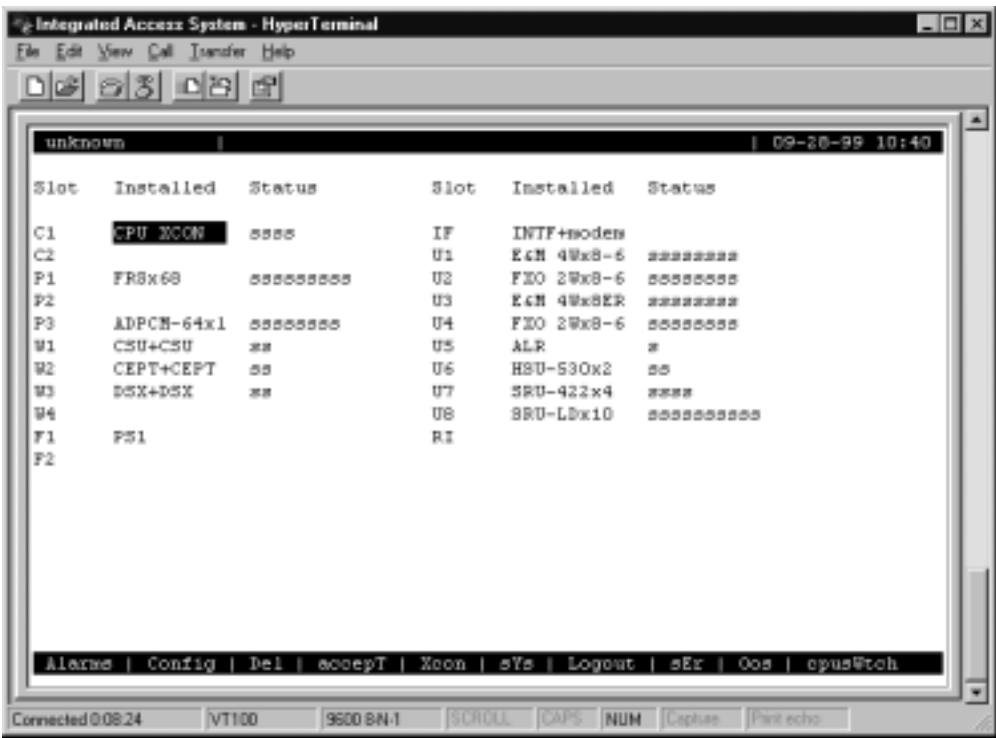
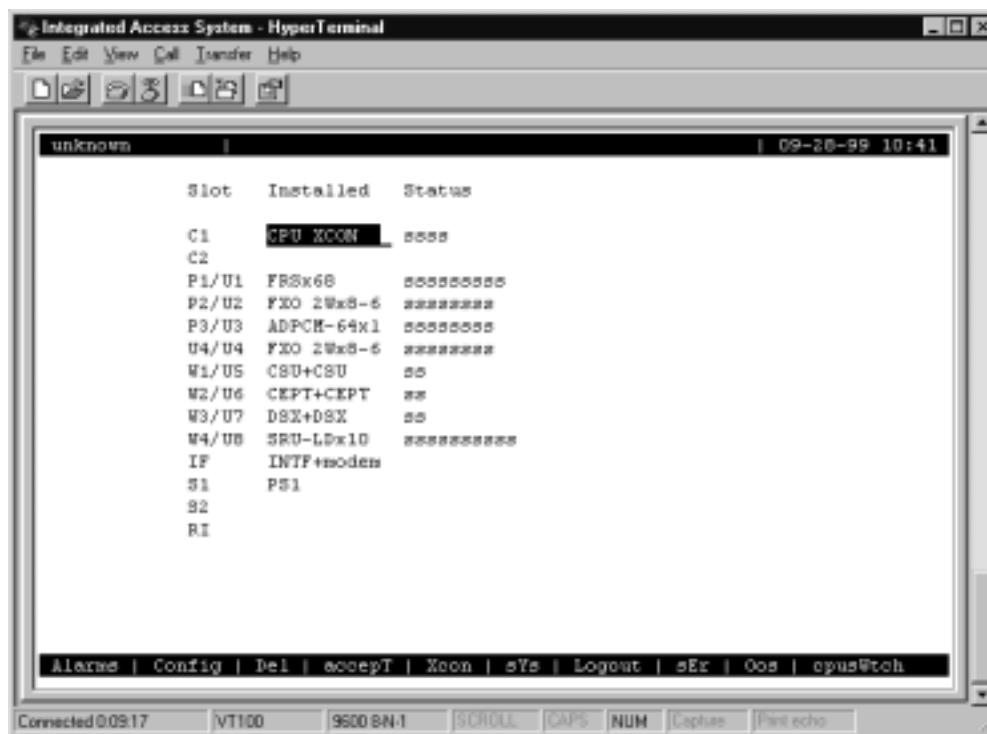

Figure 4-7. Typical System Main Screen (Two-Sided Chassis and Front-Loading Chassis with Power Supplies on Top)
Figure 4-8. Typical System Main Screen (Front-Loading Chassis with Power Supplies on the Side)
4. A System Main Screen appears. Figure 4-7 shows this screen for a two-sided chassis and a front-loading chassis with power supplies on top. Figure 4-8 shows a similar screen for a front-loading chassis with power supplies on the side. Refer to the next section for a discussion of the Integrated Access System’s user interface screen hierarchy.
After you log in, a System Main Screen similar to Figure 4-7 or Figure 4-8 appears, showing all of the cards currently in the system. The chassis slot locations, card types, and current card operational states also appear in this screen.